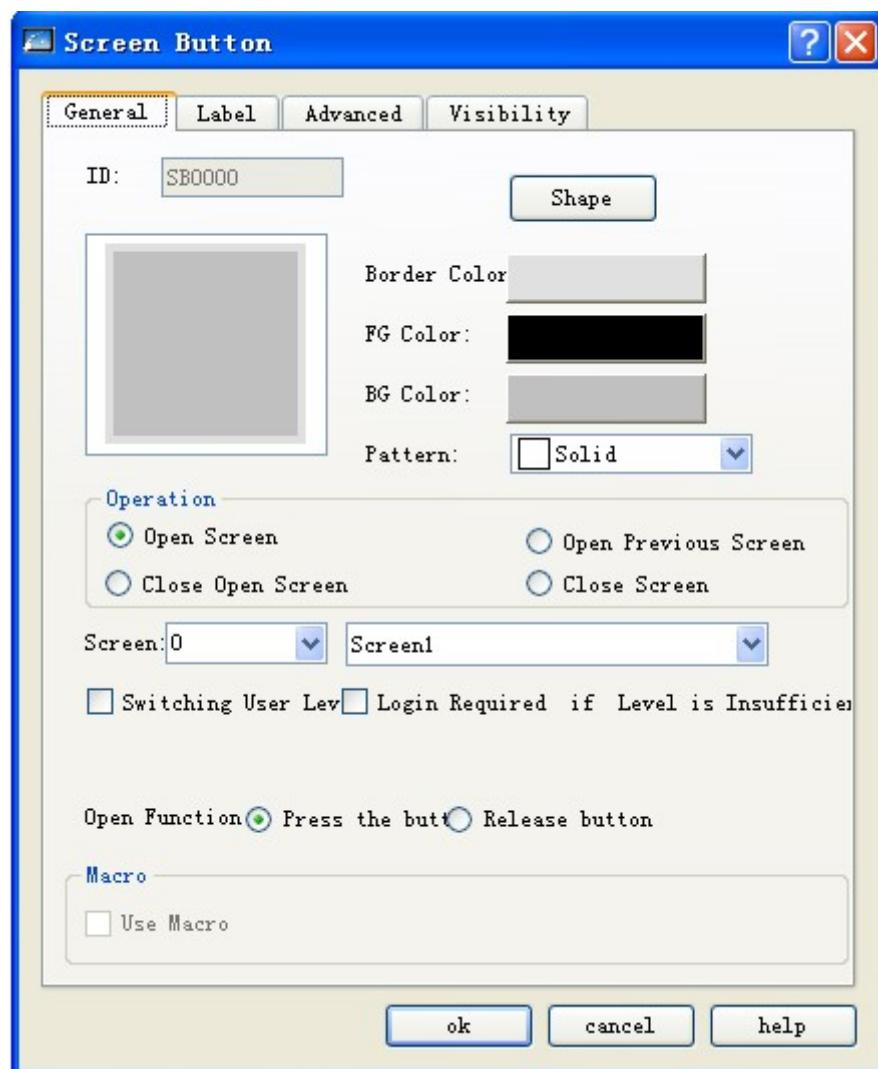

Figure 4-85: Screen button dialog
- Click Screen Button icon in the tool bar, and then a dialog as shown in Figure 4-85 will pop up.